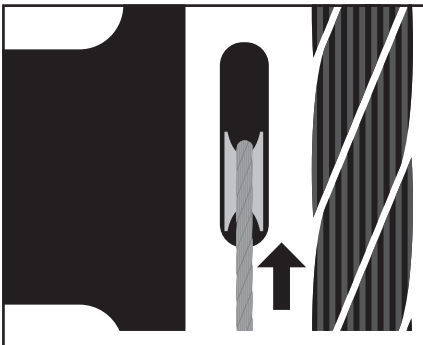

Fig. 10
4. Pass the steel cable upwards (Fig. 10).